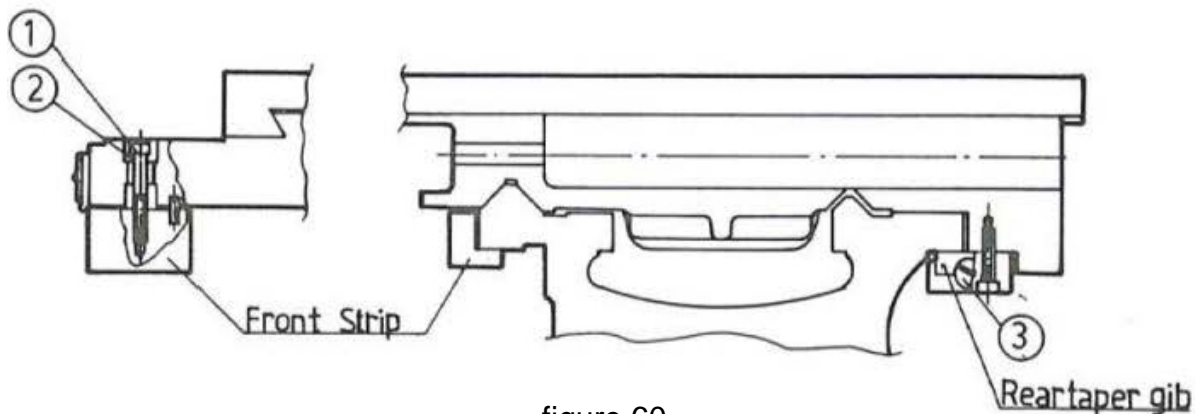

figure 60
1. Loosen jam screw (#3) (fig. 60) at the tailstock end.